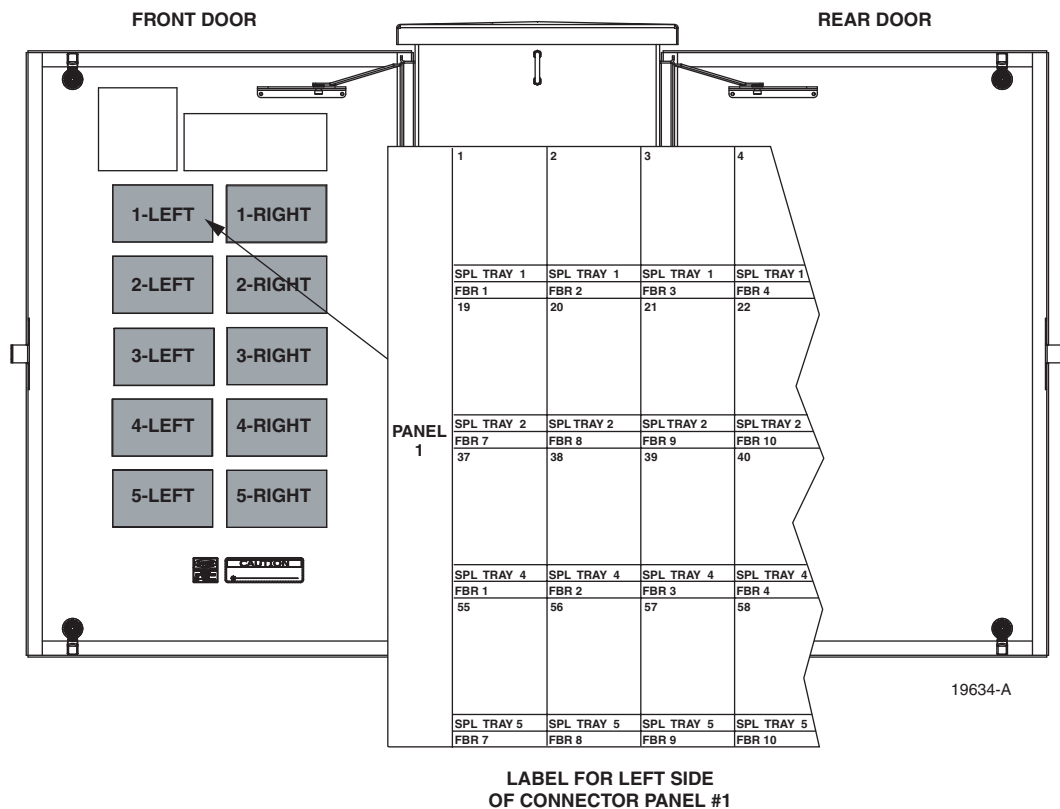
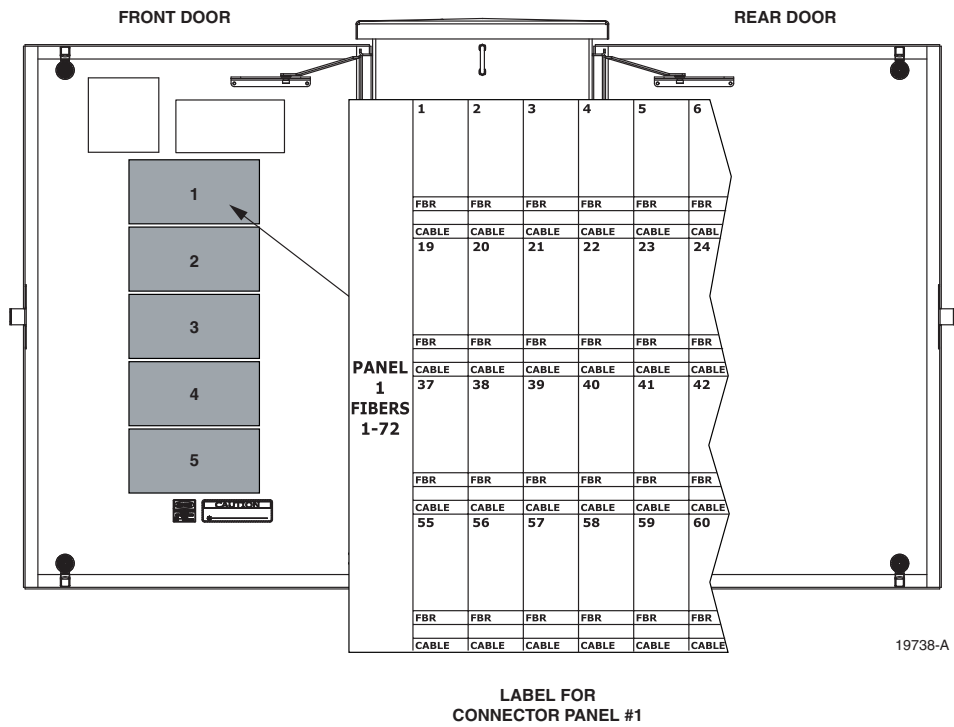
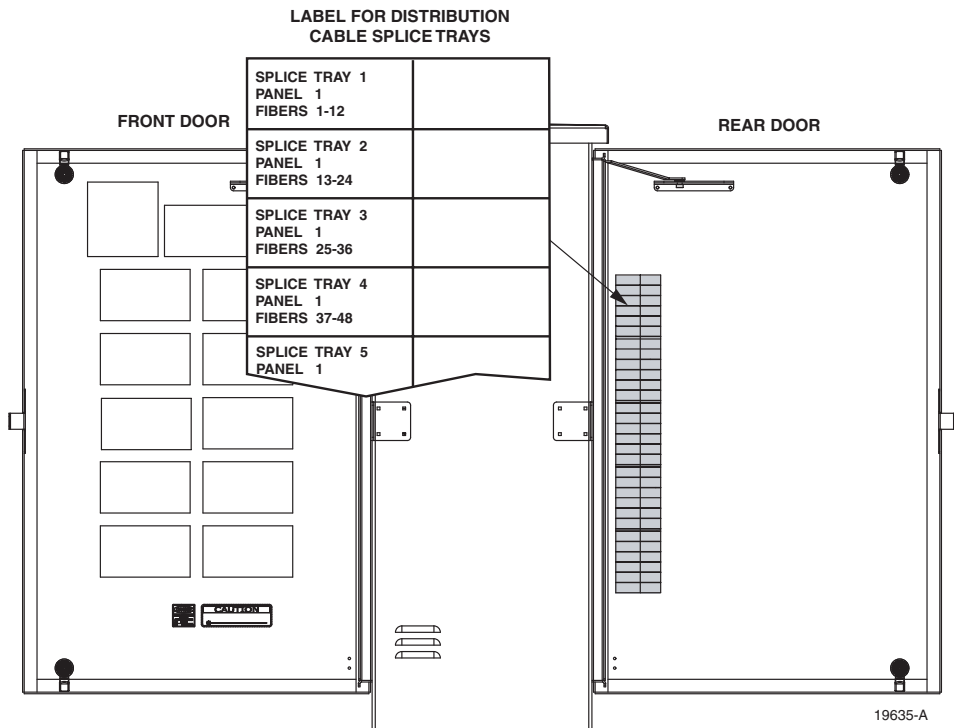

Figure 26. Connector Panel Designation Label - Type 1
Figure 27. Connector Panel Designation Label - Type 2
Figure 28. Splice Tray Designation Labels
11. Connector panel designation labels, shown in Figure 26 and Figure 27, are provided on the front door of the cabinet for recording subscriber information. For each connector panel, indicate the subscriber address and service information and the fiber and cable number if not specified. Splice tray designation labels, shown in Figure 28, are provided on the rear door of the cabinet for recording distribution cable information. For each splice tray, indicate the distribution cable and subunit number.